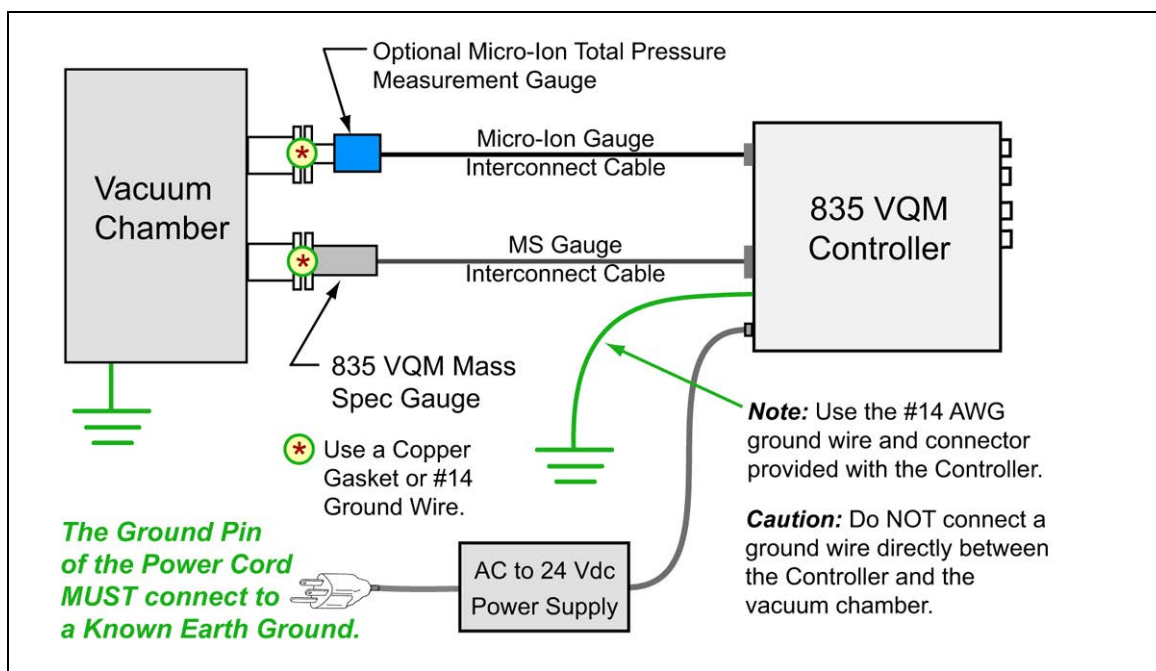

Figure 3-15 VQM System Grounding Diagram
1. Connect a #14 AWG ground wire (provided) from the ground lug (6-32 thread) on the rear panel of the VQM Controller to a known Earth ground. Do NOT connect a ground wire directly between the VQM Controller and the vacuum chamber. See Figure 3-14 and Figure 3-15.